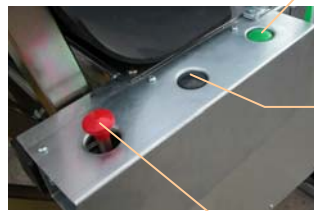

Figure 2.
- By activating the green button on the control panel figure 2, the upper holder closes itself around the hind part of the mink.
- 5. Let go of the foot pedal when the skin has been pulled past the middle holder (shoulder holder), press the black button on the control panel, figure 2, and the shoulder holder will be closed.
- 7. When the whole body has been freed from the skin press the red button on the operating panel fig. 2, which makes all the holders open and return to their original position.